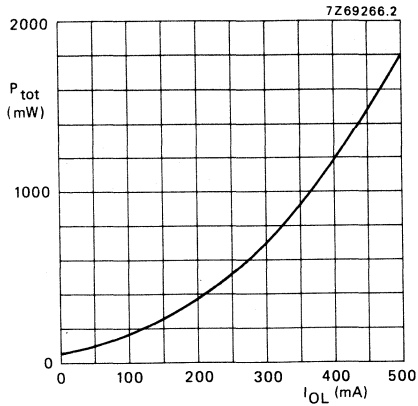

Fig. 3 Total power dissipation P_{tot} as a function of output current I_{OL} .
The circuit has open-collector outputs. To prevent damage by an overshooting output voltage the outputs are protected by diodes connected to V_{CC2} , pin 13. High output currents mainly determine the total power dissipation, see Fig. 3.
* See Figs 3 and 4.